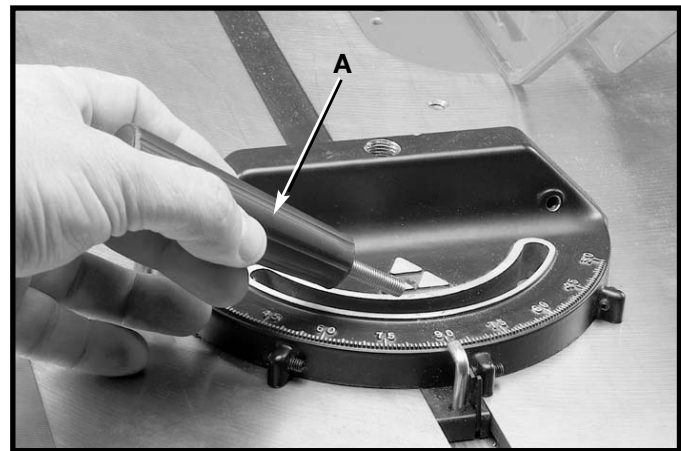
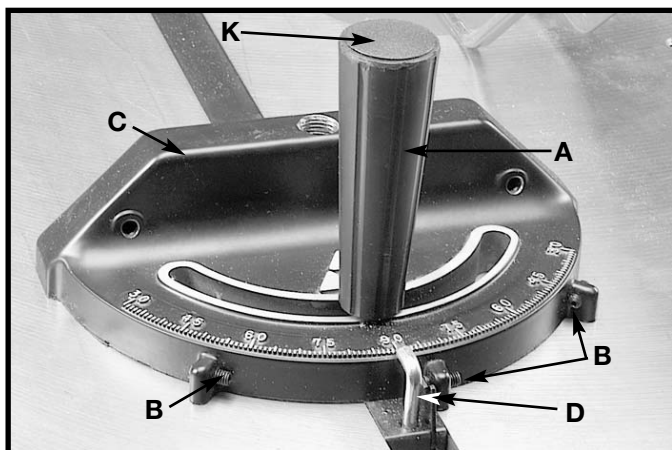

Fig. 70
Fig. 71
1. Insert the miter gage bar into the miter gage slot and assemble the lock handle with washer (A) Fig. 70, to the miter gage bar. Insert cap (K) into top of handle (A) Fig. 71.
2. The miter gage is equipped with adjustable index stops at 90° and 45° right and left. Adjustment to the index stops can be made by **tightening or loosening the three adjusting screws (B) Fig. 71.**
3. To rotate the miter gage, loosen lock knob (A) Fig. 71, and move the body of the miter gage (C) to the desired angle.
4. The miter gage body will stop at 90° and 45° both right and left. To rotate the miter gage body past these points, the stop link (D) Fig. 71, must be moved up and out of the way.